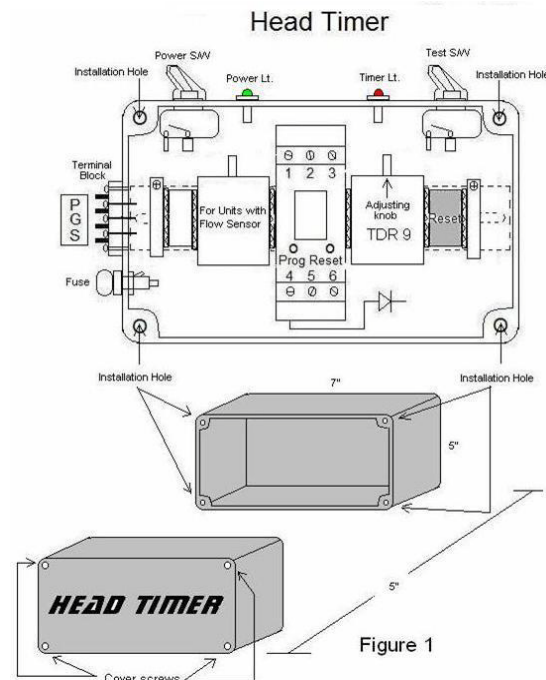

Figure 1
A. Remove the four cover screws (see Figure 1) and remove the front cover. Inside each installation hole, are the screws to attach the unit to any wall, fire wall, bulk head, ceiling and under counter or floor.
Locate **TDR 9** inside the unit (see Figure 1), the